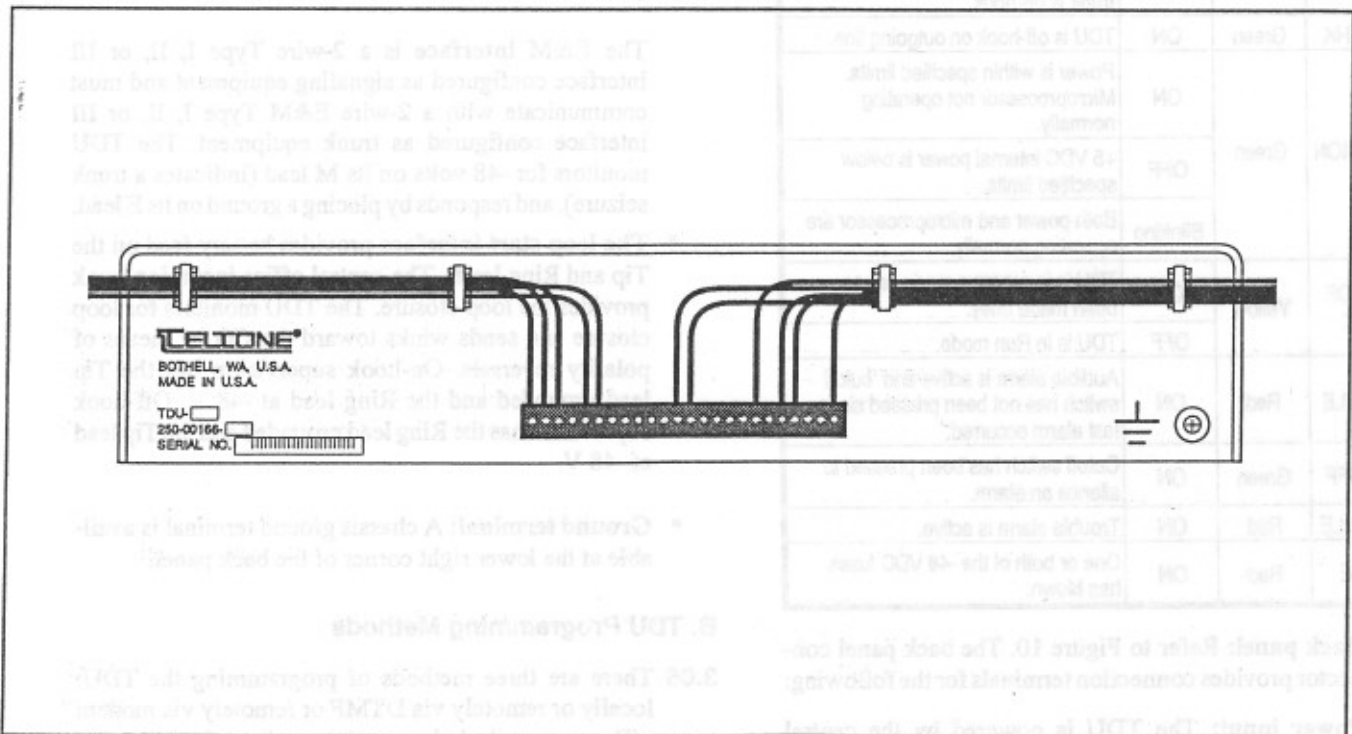

Figure 10 TDU Back Panel
3.04 Back panel: Refer to Figure 10. The back panel connector provides connection terminals for the following: